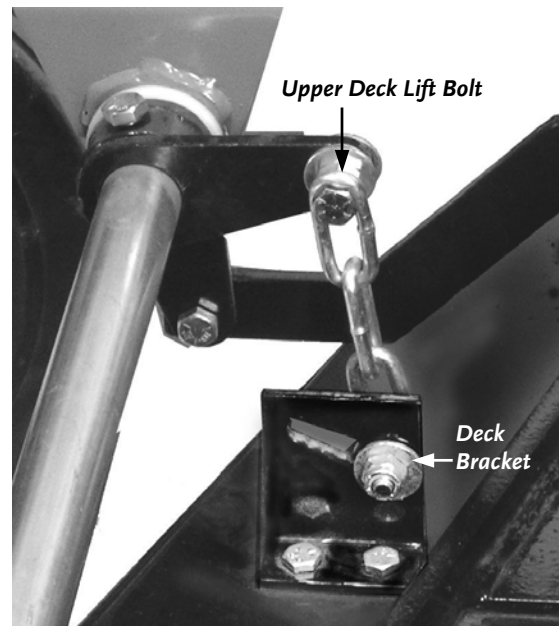

Figure 19
9. Using 1/2" Wrenches, remove the Upper Bolts (**Figure 19**) from the four (4) Deck Lift Levers connecting the Chain to the Deck Brackets.